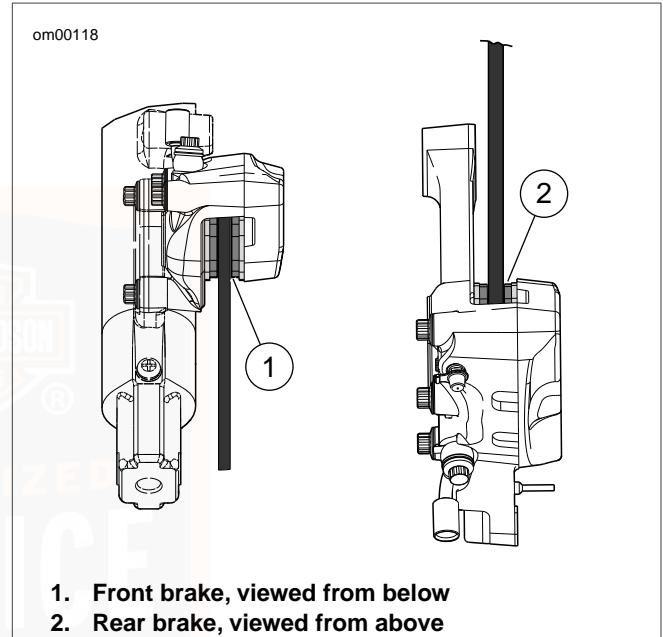

Figure 37. Brake Friction Material
4. See Figure 37. Visual inspection of brake pads can be made without removing the caliper by viewing the lower area of each caliper with the aid of a flashlight. Replace the brake pads if the brake friction material is 0.4 mm (0.016 in.) or less above the backing plate.